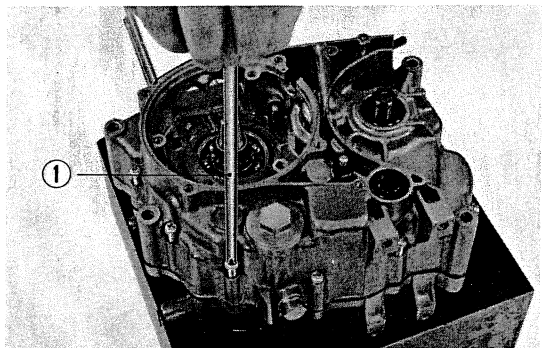

Fig. 86 Crankcase tightening
- 2) Install the left crankcase with the 6 mm attaching screws. (Fig. 86)